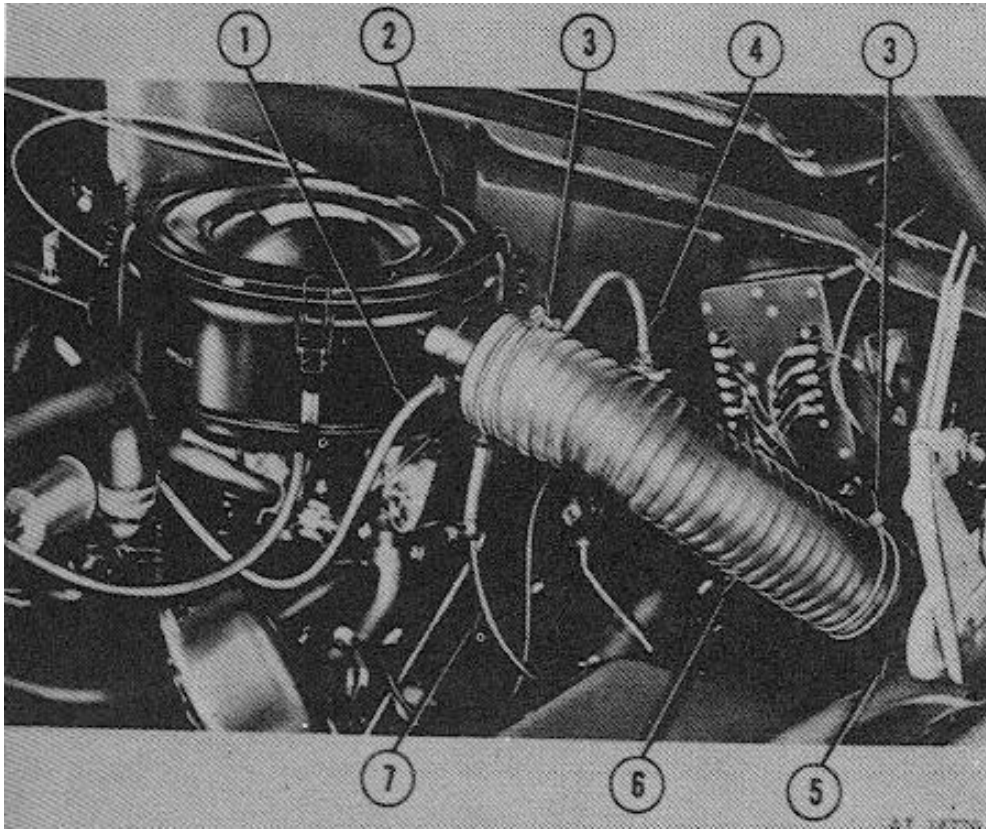
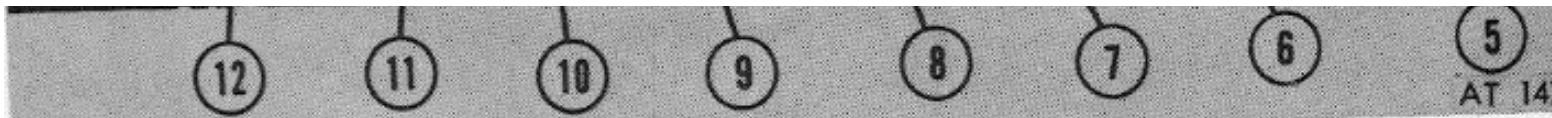

Figure 3-5. Air cleaner flexible tube.
Figure 3-6. Fording shut-off valve.
c. Air Cleaner Flexible Tube. Loosen clamp securing flexible air inlet tube to carburetor air cleaner and/or air horn housing and remove air tube, (fig 3-5).
(1) Loosen the air cleaner mounting clamp screw and raise air cleaner off carburetor and slightly position on one side.
(2) Loosen screws securing the cable wires to the fording shut-off valve arm and the ventilation valve in the crankcase vent hose.
(3) Loosen screw securing the two cable housings to the ventilation valve bracket. Remove cables from bracket.
(4) Remove nut and washer securing dual cable control to instrument panel. Pull control and cable from instrument panel and remove.
(5) Remove screws securing instruction plate to Instrument panel and remove plate.
e. Crankcase Air Ventilation Valve. (Fig 3-6)
(1) Loosen the vent hose clamp at the air cleaner base and place air cleaner to one side. Loosen the vent hose clamp at the ventilation fording valve and remove upper vent hose.
(2) Remove nut and lock washer securing fording ventilation valve to carburetor mounting stud. Remove bracket from stud.
(3) Loosen clamp securing lower vent hose to fording ventilation valve to carburetor mounting stud. Remove bracket from stud.
(4) Remove bellhousing vent tube connecting hose from nipple fitting of lower crankcase vent hose.
(5) Loosen clamp securing lower vent hose to engine crankcase and remove vent hose.
f Fording Shut-off Valve. (Fig 3-6)
a. Fording Shut-off Valve. (Fig 3-6)
(1) Install fording shut-off valve and nipple into the engine intake manifold fitting.
(2) Install engine ventilation valve into the fording shut-off valve.
(3) Connect the engine ventilation hose to the oil filler tube and the engine ventilation valve mounted on the fording shut-off valve.
b. Crankcase Air Ventilation Valve. (Fig 3-6)
(1) Install lower vent hose-to-engine crankcase and tighten clamp.
(2) Install bellhousing vent tube connecting hose to nipple fitting of lower crankcase vent hose.
(3) Install ventilation valve and connect lower vent hose and tighten clamp.
(4) Install fording ventilation valve onto carburetor mounting stud and secure with nut and lock washer.
(5) Install upper vent hose to ventilation fording valve and tighten hose clamp.
c. Carburetor Air Cleaner and/or Air Horn Housing. (Fig 3-5)
(1) Position carburetor air cleaner and/or air horn housing on carburetor and tighten mounting clamp.
(2) Connect crankcase ventilation hose to air cleaner and/or air horn housing and secure with clamp.
(3) Connect flexible air inlet tube to carburetor air cleaner and/or air horn housing and secure with clamp.